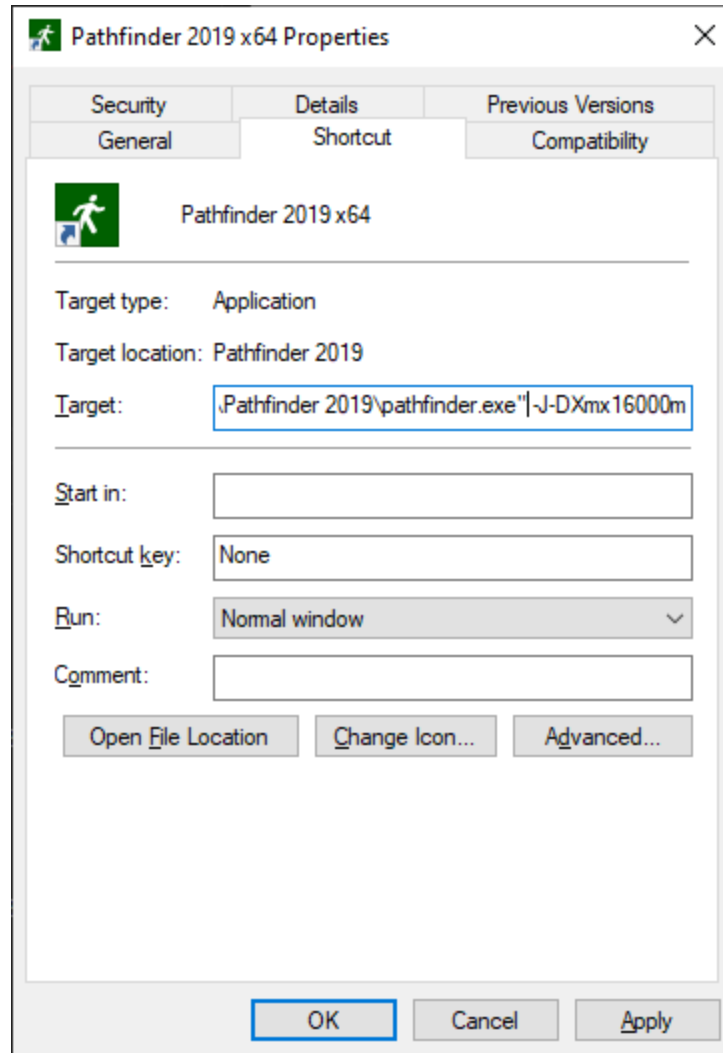

Figure 143. Example Shortcut Dialog
4. At the end of the **Target** field, type a space on the keyboard and then `-J-DXmx16000m`. The shortcut dialog will look similar to Figure 143.